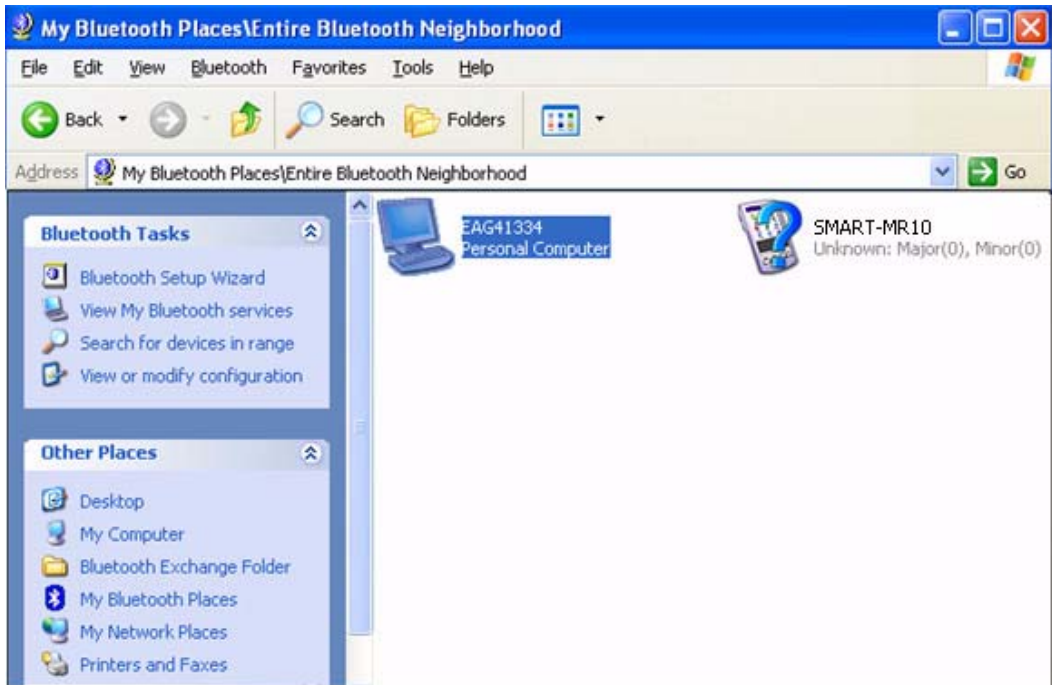

Figure 22: My *Bluetooth* Places Window
3. Click the *Search for devices in range* option from the *Bluetooth Tasks* side bar on the left of the *My Bluetooth Places* window. *Bluetooth*-enabled devices within range appear in the *Entire Bluetooth Neighborhood* folder, as shown in *Figure 22*.
1. Double-click the SMART-MR10 device icon in the *Entire Bluetooth Neighborhood* window, as shown in *Figure 22*. The PC/laptop searches for available services. If *Bluetooth* is working properly, a COM port service appears.
2. Click the *Search for devices in range* option from the *Bluetooth Tasks* side bar on the left of the *My Bluetooth Places* window. *Bluetooth*-enabled devices within range appear in the *Entire Bluetooth Neighborhood* folder, as shown in *Figure 22* on page 61.